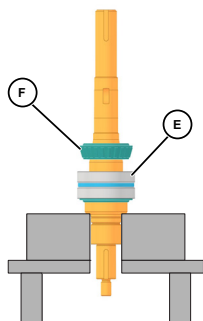

Figure 51 - Upper Cup & Upper Cone
7. Place the upper cup (Figure 51, item E) on top of the outer spacer.
8. Lubricate the remaining upper cone and roller assembly (Figure 51, item F) with oil or grease and slip it over the shaft with the roller radius facing up. Press it onto the shaft and into the upper cup.